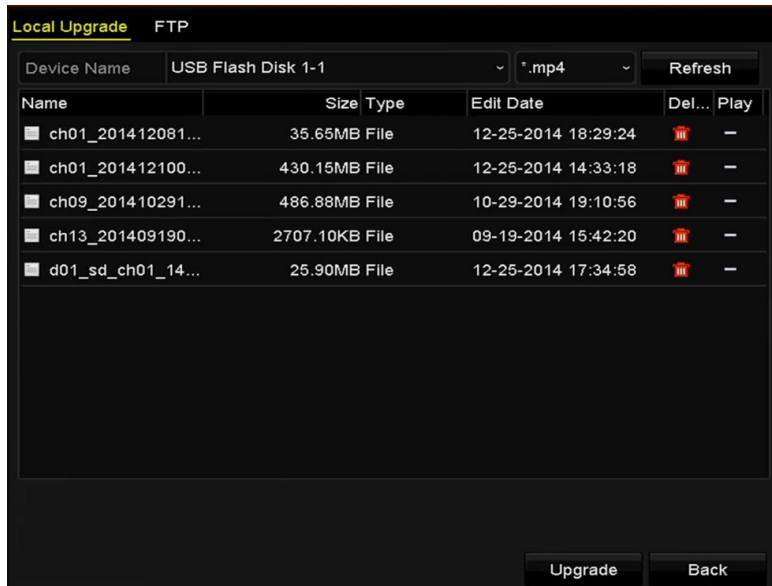

Figure 269 Local Upgrade Interface
3. Click the **Local Upgrade** tab to enter the local upgrade menu, as shown in Figure 269.